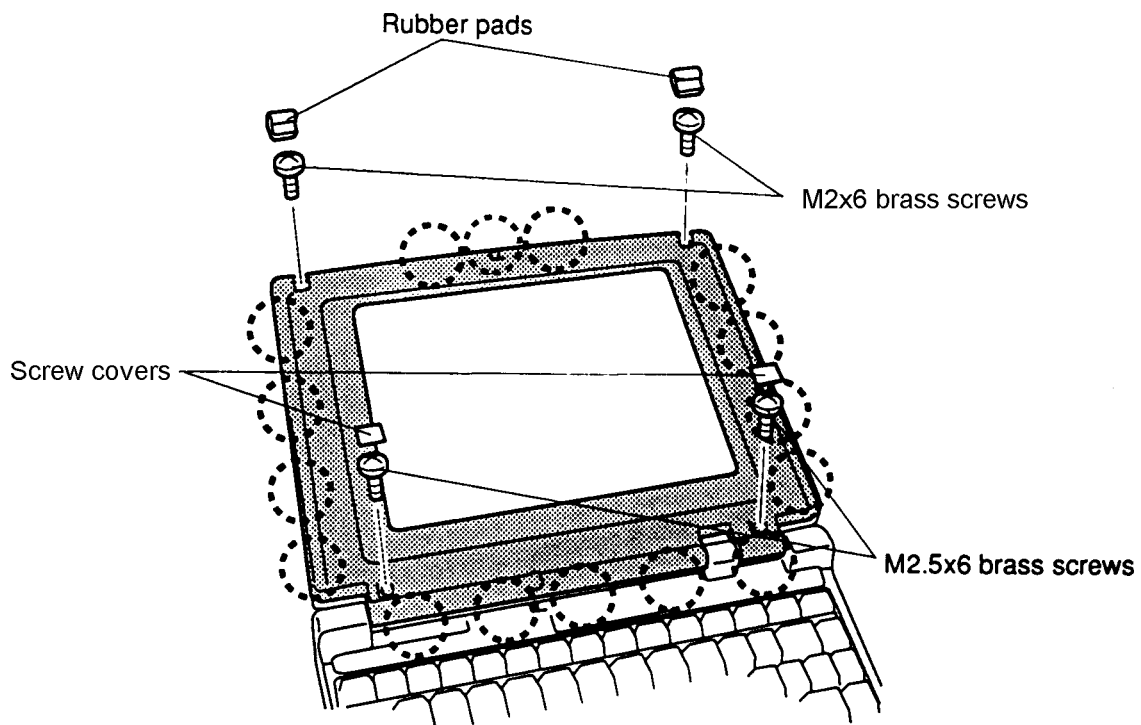

Figure 4-22 Removing the Display Mask
To remove the display mask, follow the steps below and refer to Figure 4-22.
3. Remove **two screw covers** from the display hinges and **two rubber pads** from the top corners of the display (Figure 4-22).
4. Remove **two brass M2.5x6 screws** at the bottom corners of the display mask, and **two brass M2x6 screws** at the top corners (Figure 4-22).
6. Continue around the display cover to release **two more latches** at the top, **four latches** on each side and **five latches** at the bottom (Figure 4-22).
To install the display mask, follow the steps below and refer to Figure 4-22.
1. Set the **display mask** in place and press firmly to secure the latches. Start at the bottom **five latches** and work your way around the sides (**four latches** at each side) to the **three latches** at the top (Figure 4-22).
2. Secure **two brass M2x6 screws** at the top of the display cover and **two brass M2.5x6 screws** at the bottom (Figure 4-22).
3. Replace the **two rubber pads** and **two screw covers** (Figure 4-22).